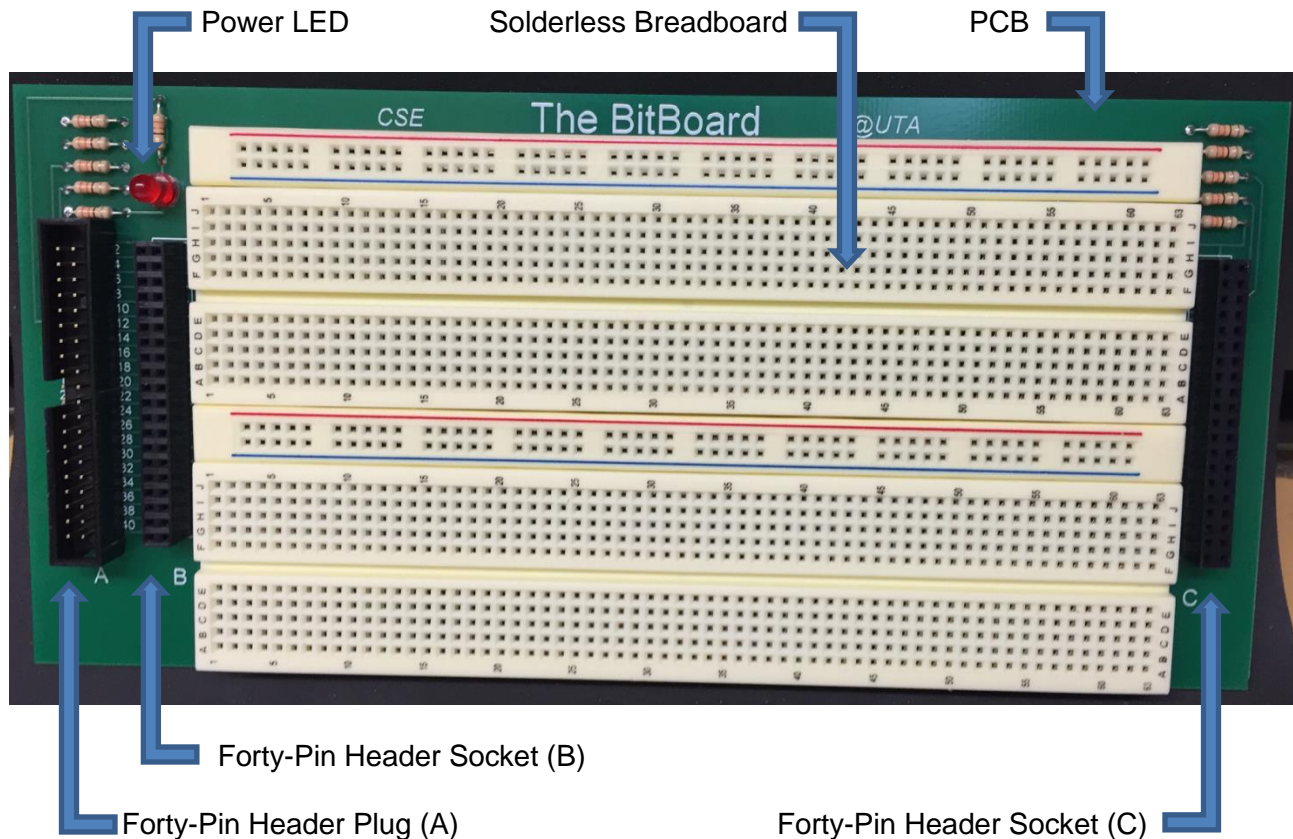

Figure 1 – The BitBoard Layout and Nomenclature.
1. **The BitBoard** – The BitBoard accommodates the assembly and implementation of small digital logic circuits. It consists of a solder-less breadboard that can be connected to a DE1 or similar device for power and input/output. See Figure 1. A BitBoard will be checked out to you for use during the semester. ***You will be required to return the BitBoard at the end of the semester.*** More details on The BitBoard can be found on page 4.
The *BitBoard*® is a device that can be used for constructing, testing, and experimenting with small digital logic circuits. It consists of a solderless breadboard, three 40-pin connectors, and a printed circuit board (PCB). Corresponding pins of each connector are permanently interconnected by the PCB. Connector *A* is a 40-pin header plug that can be used to connect The BitBoard to other devices such as an Altera DE1. Connectors *B* and *C* are 40-pin header sockets that can be used to connect signals to the solderless breadboard using jumper wires. Figure 1 shows The BitBoard layout and nomenclature.